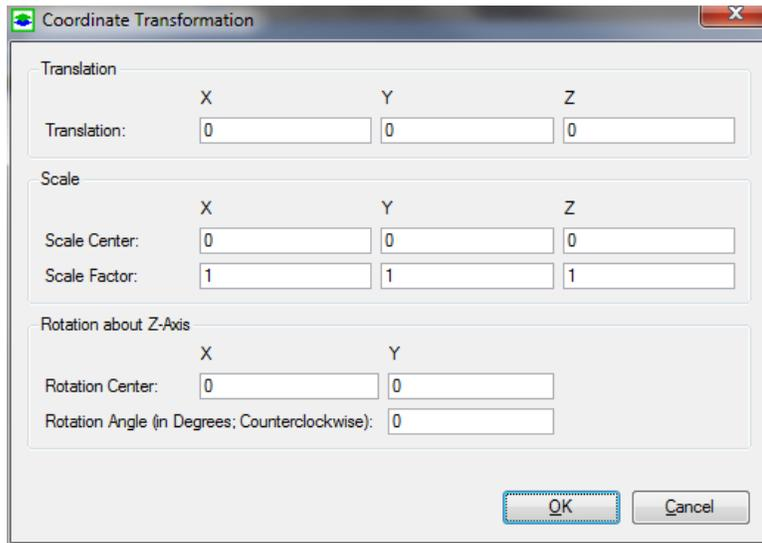

Figure 1.4. The Coordinate Transformation dialog box
- *Coordinate Transformation*: When a graphical object is created, Seer3D displays the Coordinate Transformation dialog box (Figure 1.4), where you can enter the desired transformation parameters, or just click OK to accept the default parameters. You can modify the transformation parameters any time by clicking the  button to open the Coordinate Transformation dialog box. The coordinate transformation is done sequentially by applying translation, scale, and rotation parameters to all points of the graphical object. Note that a graphical object is scaled from the *Scale Center* by multiplying the distance of each point to the *Scale Center* by *Scale Factor*.
4. Before a DEM model is displayed, the Coordinate Transformation dialog box appears (Figure 1.4), where you can enter the desired parameters to sequentially translate, zoom (scale), and rotate the model, or just click OK to accept the default parameters. You can also define transformation parameters at a later time (see Properties below).